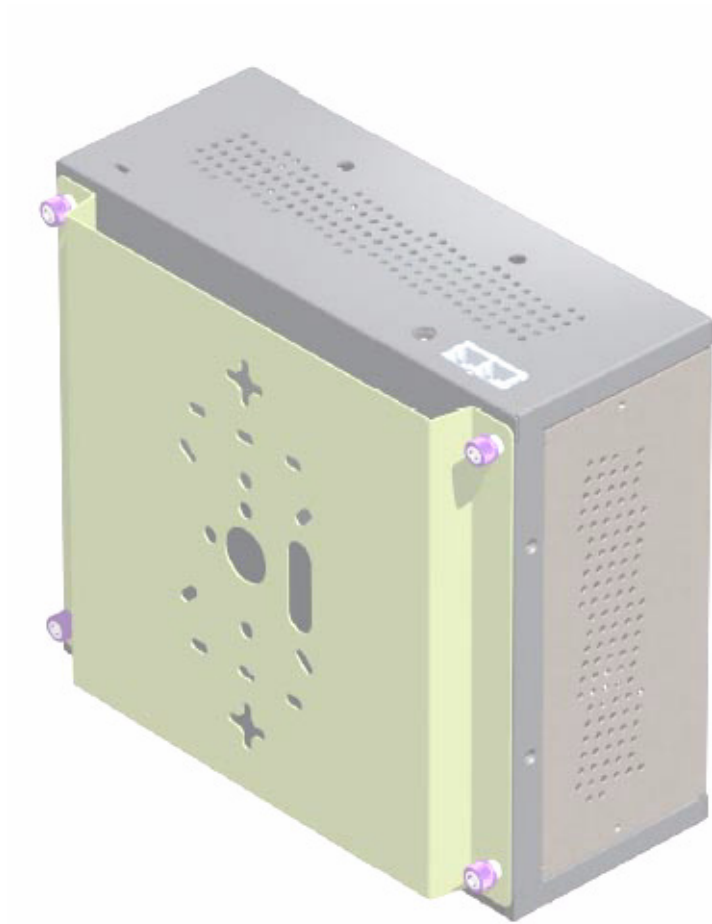

Figure 6: Bracket Attached to RS4000
1. Remove the bracket from back side the RS4000, if it is attached, by unscrewing each of the 4 knurled thumbscrews (see Figure 6).